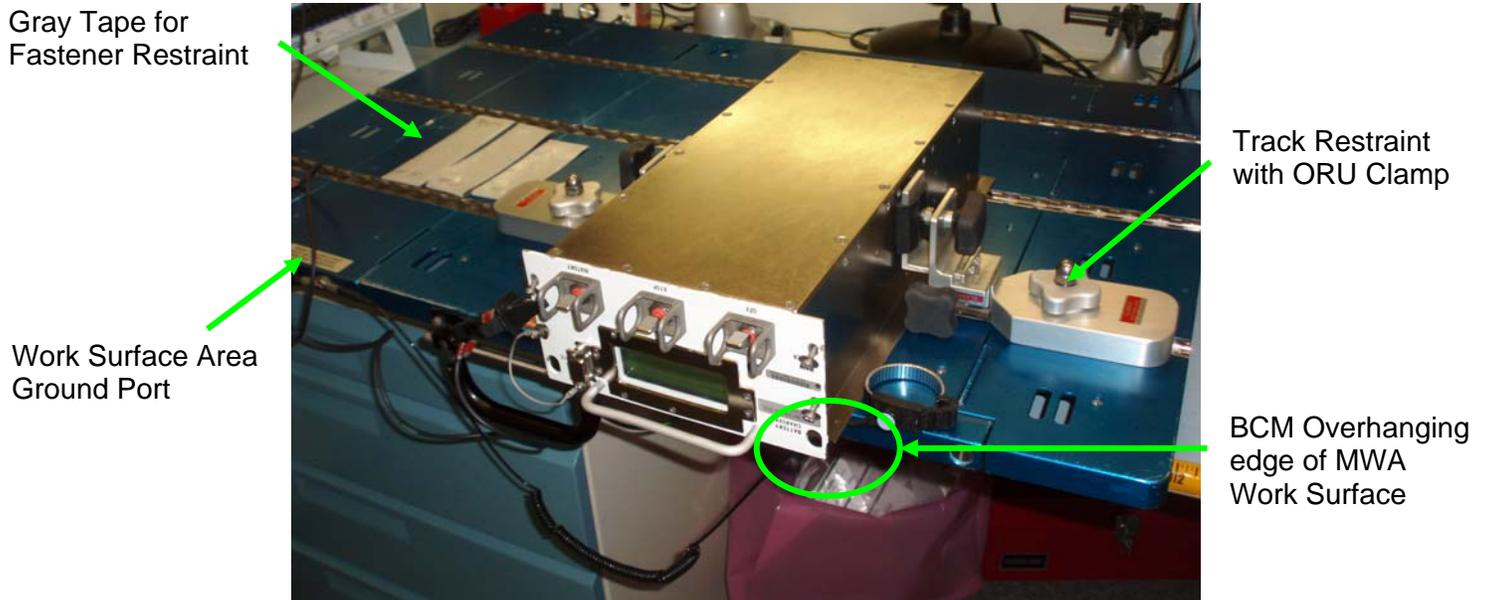

Figure 1. – BCM Attached to MWA Work Surface Area.
- 1.1 Place BCM, upside down, on MWA Work Surface Area. Adjust positioning of BCM faceplate to overhang edge of MWA Work Surface to allow access to fasteners during future steps. Secure BCM using Track Restraints and ORU Clamps. Reference Figure 1. Refer to A.2.6 Maintenance Work Area (MWA) Installation if needed.